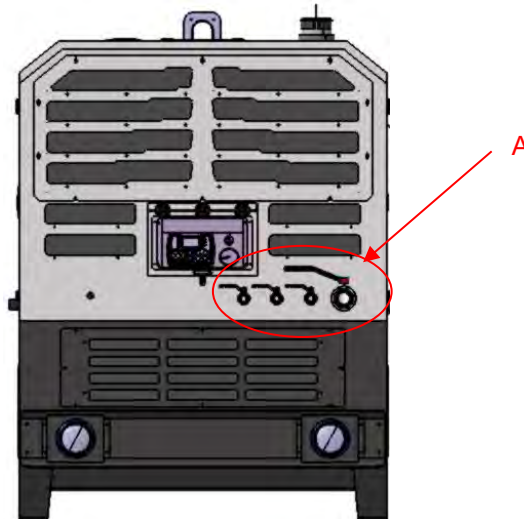

Figure 10.2-1 Location of the taps
3. Gradually open the air tap (Letter A in Figure 10.2-1);
5. Release the lock-nut (1).
6. Tighten the regulation screw (2) to increase the pressure to the desired value.
7. Loosen the regulation screw (2) to reduce the pressure to the desired value
8. Tighten the lock nut (1) and close the cocks.